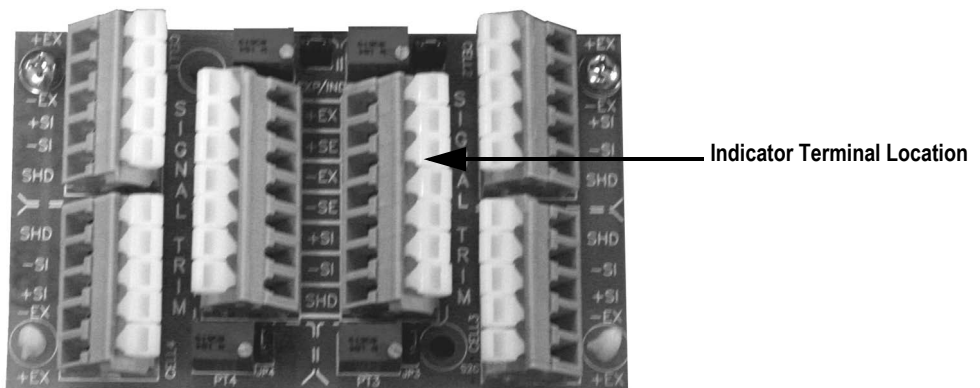

Figure 2-2. Junction Box Wiring
5. Connect the wires to the indicator terminal (Figure 2-2) as shown in Table 2-1.